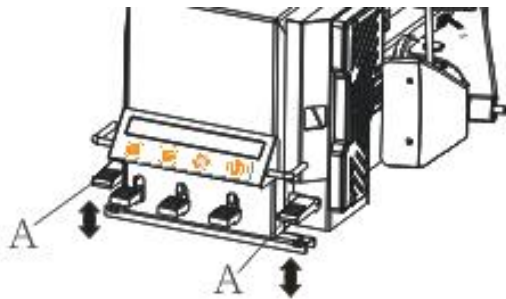

Fig.19
- Press pedal A ( as fig.19) , turntable turn clockwise, until edge of wheel fall off.
- ***If the demounting process is prevented, stop the turntable from turning around, lift pedal A (fig. 19), let the turntable turn anti-clockwise.***